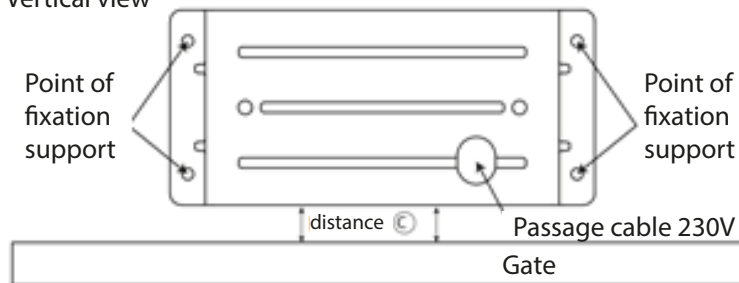

Figure 6
- 2) Position the plate without fixing at its precise location. It must be perfectly parallel to the date (Figure 6)
- 7) Pass all cables (Power supply + accessories) in the base. (Figure 6)